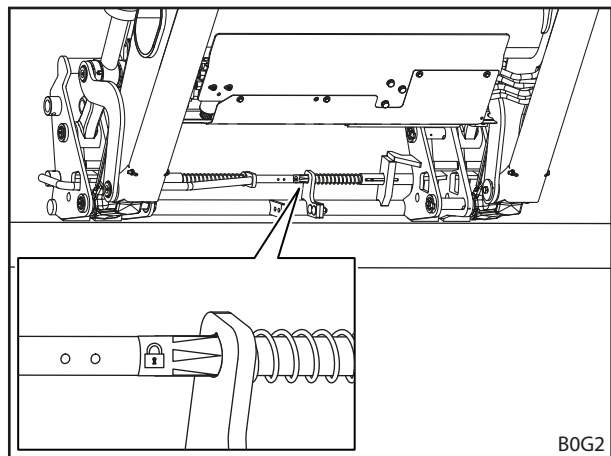

Fig. 77 Using the sticker to check the implement locking mechanism (Euro-FR Combi change frame)
- (1) Actuating the *scooping* function. To do this, the front loader may not be lifted to a height of more than 1.5 m.
**i** For the Euro-FR Combi change frame, the sticker is on the middle mounting plate (see Fig. 77).